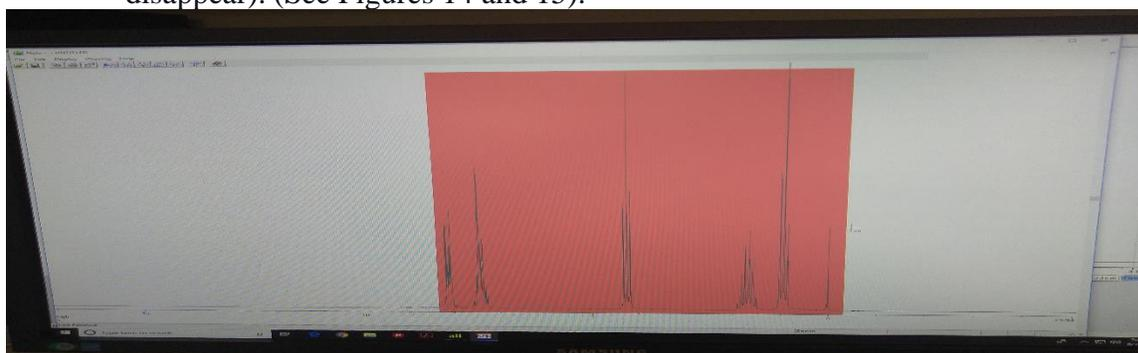

Figure 14. NUTS screen showing the zoom-in highlighted peaks.
19) A) Double click the left mouse button, to open the zoom mode (you will a cross wire cursor on the screen). B) Single-click the left mouse button and drag the highlighter over the peaks of interest (left to right). C) Click once on the right mouse button to select the shaded region. D) Press 'enter' to exit from zoom (cross wire cursor will disappear). (See Figures 14 and 15).